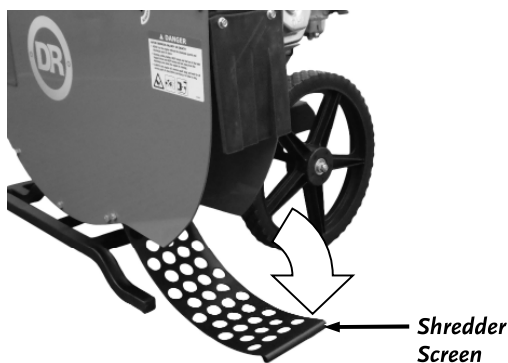

Figure 11
3. Rotate the Screen down to gain access to the cutting chamber (Figure 11).